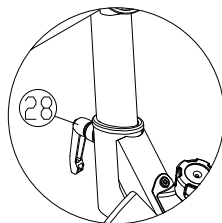

Figure 10
10. Adjust the armrest height using the L-shaped adjustment knob (Part 28). Multiple height positions are available; refer to Figure 10.